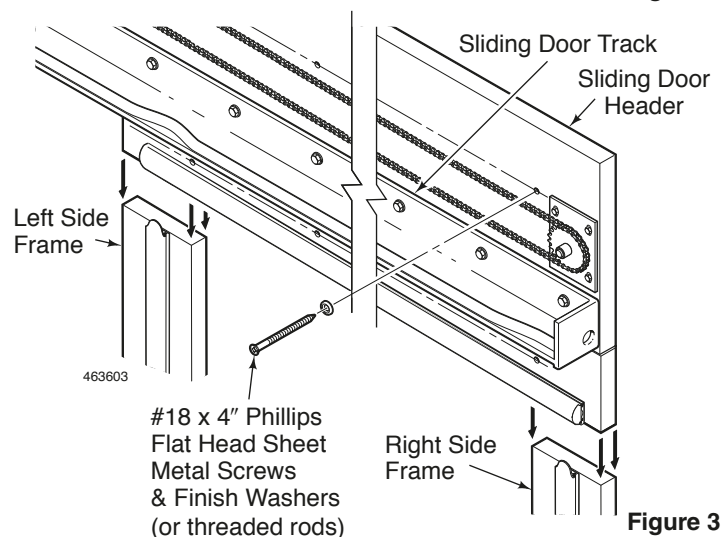

Figure 3
5. Mount the Sliding Door Track and Header as-sembly above the door frame. See Figure 3. For a single door, mount the end of the Track flush with the edge of the side frame. For a bi-parting door, the center stops on the Door Track should be centered above the door opening. In all cases, anchor the Door Header with the with the fasteners that are provided.